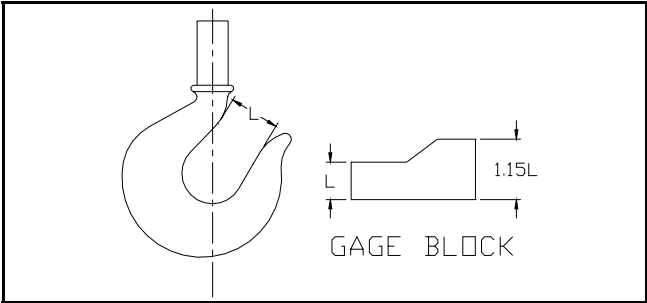

FIGURE 5-2 Gage Block.
- f) Check throat opening of the hook. (Refer to Figure 5-2.) It is recommended that upon receipt of the hoist, a measurement be made and recorded of the hook throat opening. OSHA regulations require that the hook be replaced if the throat opening exceeds 15 percent of the original opening, or if the hook is twisted more than 10 degrees from the unbent plane. We suggest that a gage block properly identified to the hoist, similar to the one shown in Figure 5-2, be made for each hook for use in these measurements.